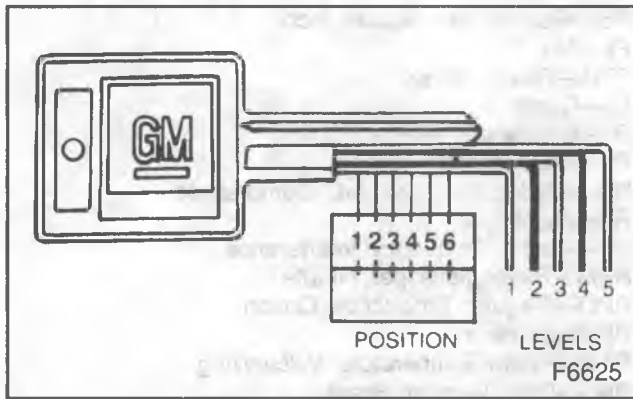

Figure 32—Key Code Diagram
Key identification is obtained from the four character key code stamped on the knockout portion of the key head and an identification letter stamped on the key shank. After the code number has been recorded by the owner, the plugs should be knocked out of the key head. From these numbers, the lock combination can be determined by use of a code list. This list is available to owners of key cutting equipment from equipment suppliers. If the key code numbers are not available from records or from the knockout plug, the lock combination (tumbler numbers and position) can be determined by laying the key on the diagram in figure 32.
1. Determine the code from the code list or the key code diagram (figure 32).
Assemble (Figures 32 and 33)
2. Starting with position one (the open end or head of the cylinder), insert tumblers in their proper slots in the order called for by the code (figure 32 and 33).